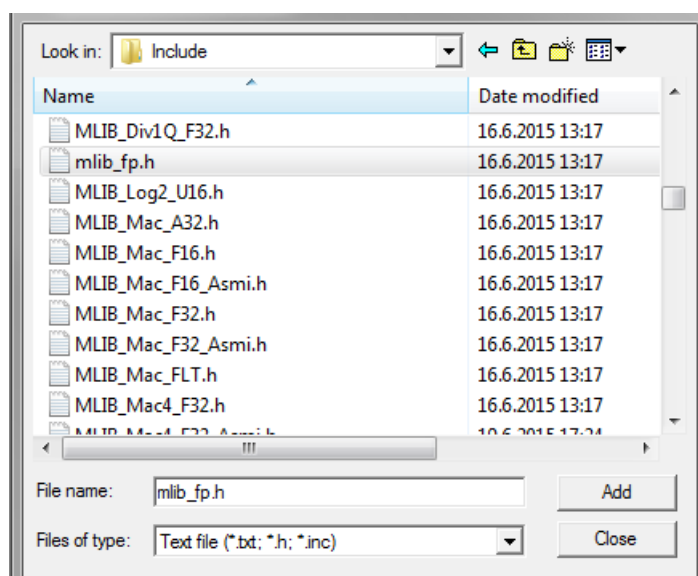

Figure 1-22. Adding .h files dialog
4. Navigate into the library installation folder C:\NXP\RTCESL\CM4F_RTCESL_4.3_KEIL\MLIB\Include, and select the *mllib_fp.h* file. If the file does not appear, set the Files of type filter to Text file. Click Add. See Figure 1-22.